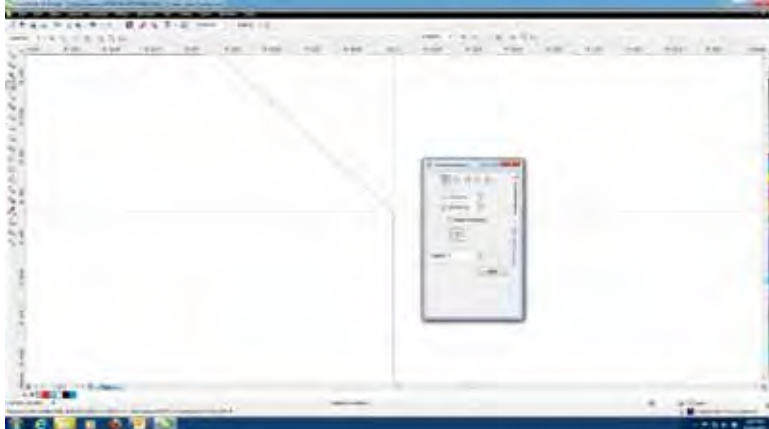

Fig.17
- 4. Place a new horizontal guideline on the inner bottom part of the trim at the top and the inner upper side on the bottom left. See Fig 17 and 18 as that will make this clearer.